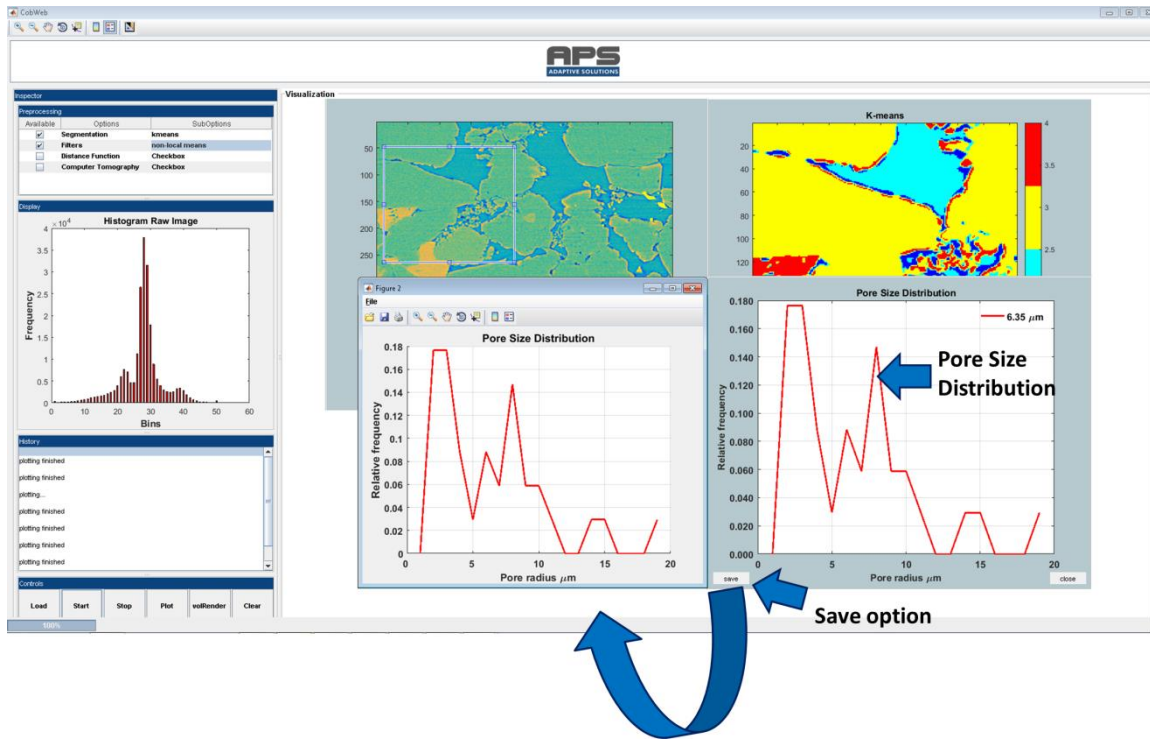

Figure 35: Pore size distribution of single slice
- The PSD of the respective slice is plotted in a new window, as shown in Figure 35.